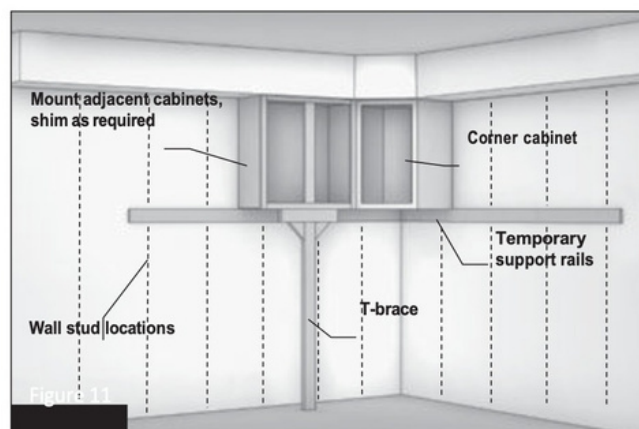

Figure 11
- 3.5** Lift the adjacent cabinet into position on the support rail and brace. Using the pilot holes you created on the floor, attach the two cabinets at the face frames, making sure they are still flush when screwed together. (Figure 11)